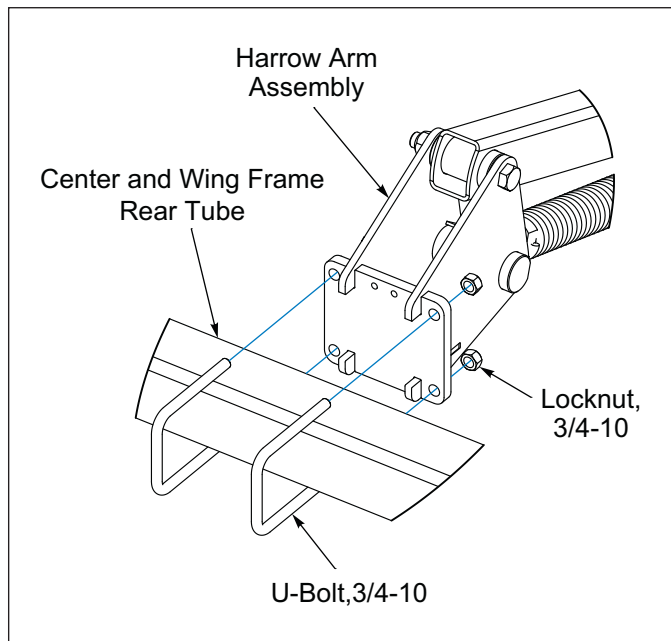

Figure 2-83: Harrow Arm Installation
2. Position Harrow Arm Assemblies on the Center Frame Rear Roller Tube or Wing Frame Rear Tube. Secure with 3/4-10 U-Bolts and Locknuts. See **Figure 2-83**.